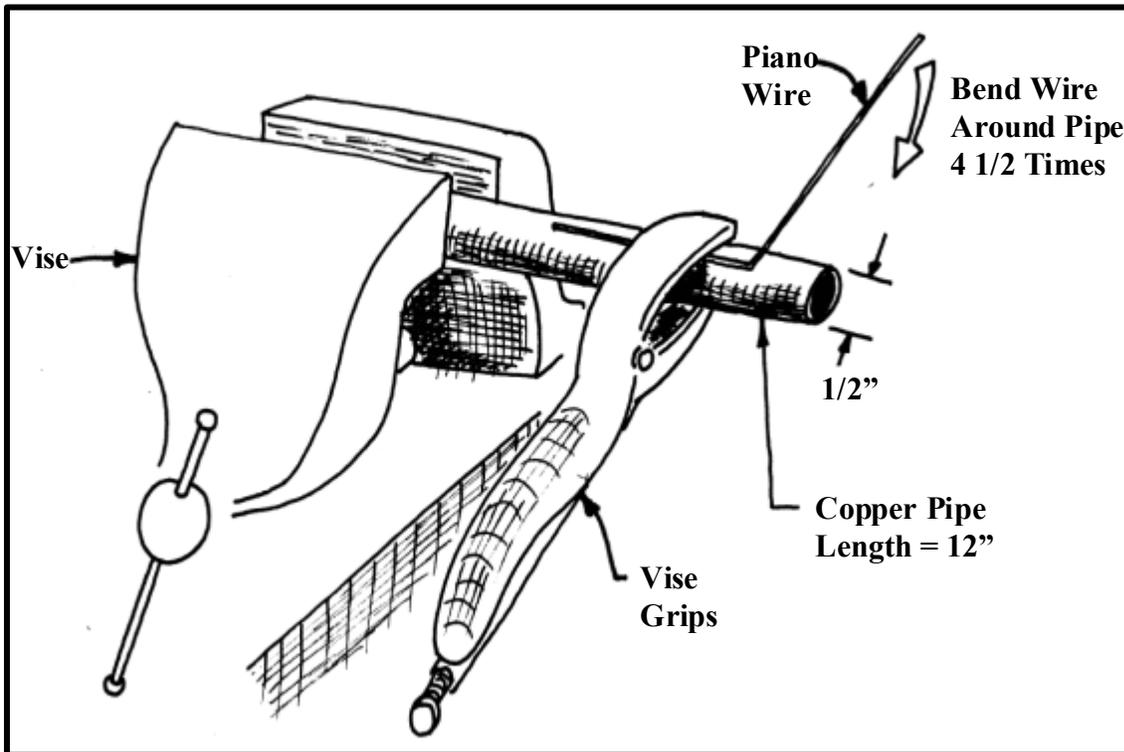

Figure 3 Coil Winding Setup
Step 1. Place the piano wire in the vise with 9 inches of the wire exposed on one side. Bend the exposed 9 inches into a sharp 90 degree bend. Pound the bend with the hammer on a hard surface to make it a sharp right angle. Remove the wire and secure the 14 inch piece of copper pipe in the vise with approximately 6 to 8 inches extending. Then, using the vise grips, clamp the 9 inch end of the piano wire to the top of the copper pipe extending from the vise as shown in Figure 3. Make sure the wire is clamped securely to the pipe. Then very carefully, bend the long end of the piano wire around the pipe 4 1/2 times. Do this slowly and keep the coil tight against the pipe as you wind it around. It is OK to use your